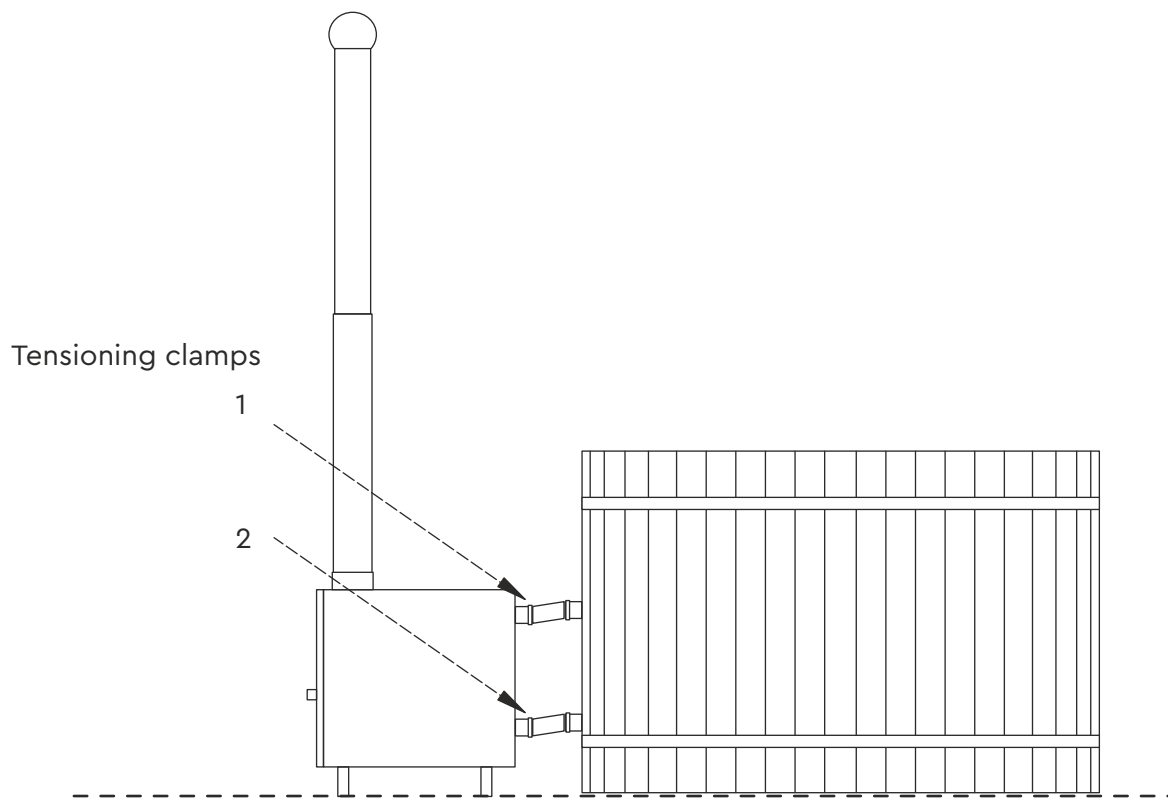

Fig. 5
- Tighten the clamps (4 pcs.). See Figures 5 and 6.
6. Make sure that the hot tub, external heater and their connecting hoses are properly installed. See Figures 5 and 6.